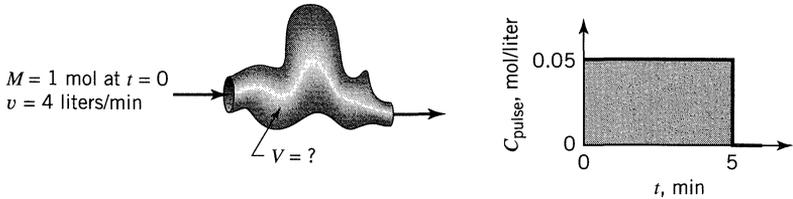

Figure P11.1
- 11.1. A pulse input to a vessel gives the results shown in Fig. P11.1.